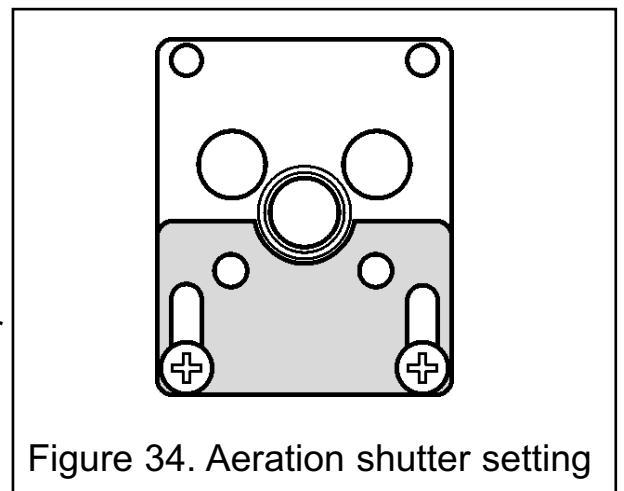

Figure 34. Aeration shutter setting
1. The aeration shutter is factory set. It is important to ensure that the aeration setting is correct (See figure 34).